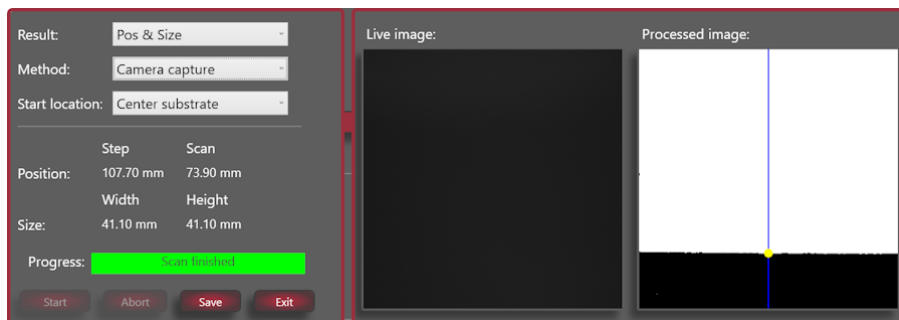

Figure 3-25 Scan finished while showing last edge
- 9.6. Wait for the substrate scan to finish, see **Figure 3-25 on the next page**.